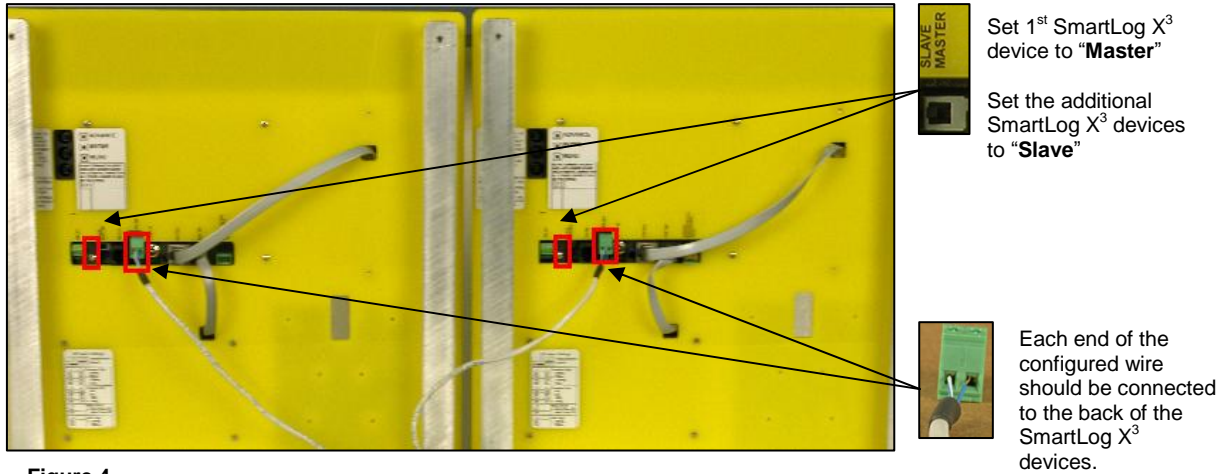

Figure 4
Once both ends of the wire are assembled, insert them back into of each the SmartLog X3 devices. (See Figure 4)
6. Set the RS-485 switch on the back of the SmartLog X3 that is hardwired to the local PC to "Master." (See Figure 4)